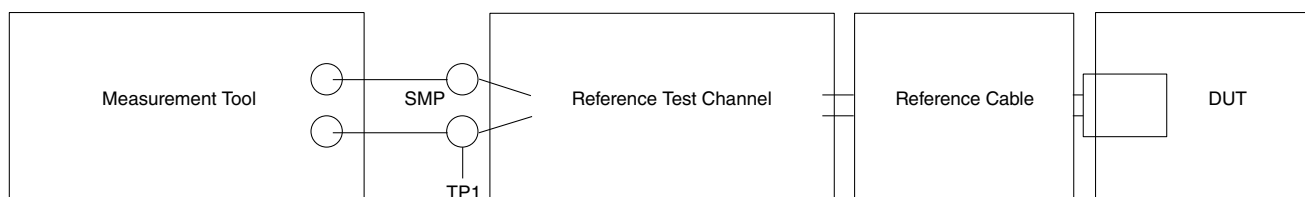

Figure 24. Transmitter normative setup
1. Measured at compliance TP1. See Figure 24 for details.